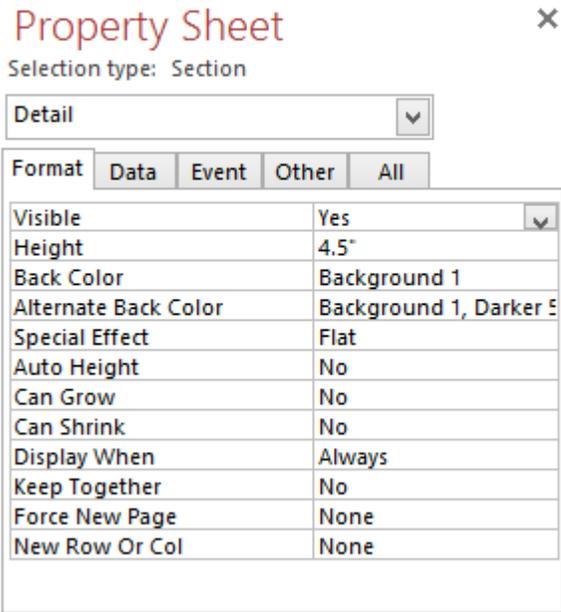
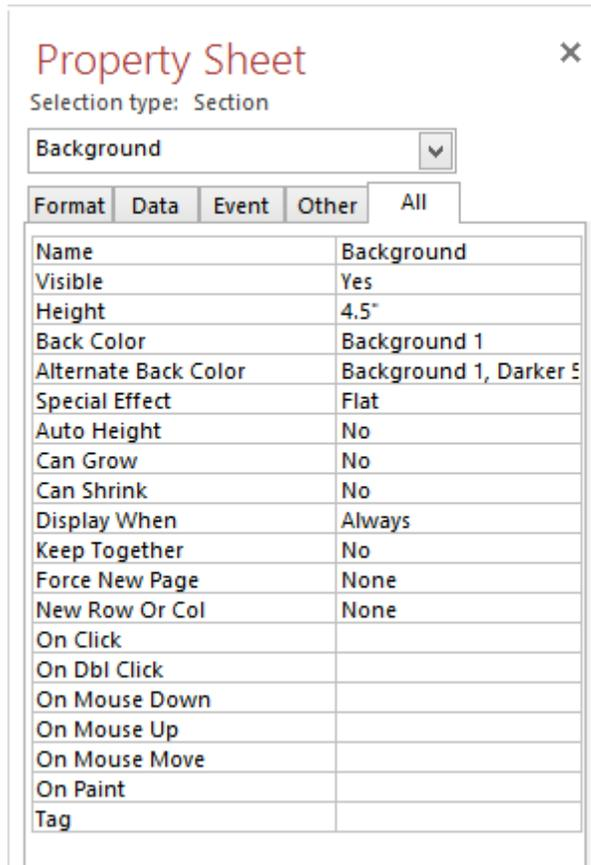

Figure 22: Property Sheet for the Detail Section
Figure 23: Detail Renamed to Background
- Expand Background Height: In the detail section, click on the "Blends" background and then click the right mouse button to select its Property Sheet. This opens a Property Sheet for the Detail section (Figure 22). Change the value of the *Name* property to "Background". Next, move down to the *Height* property and change the height to "4.5" (Figure 23).